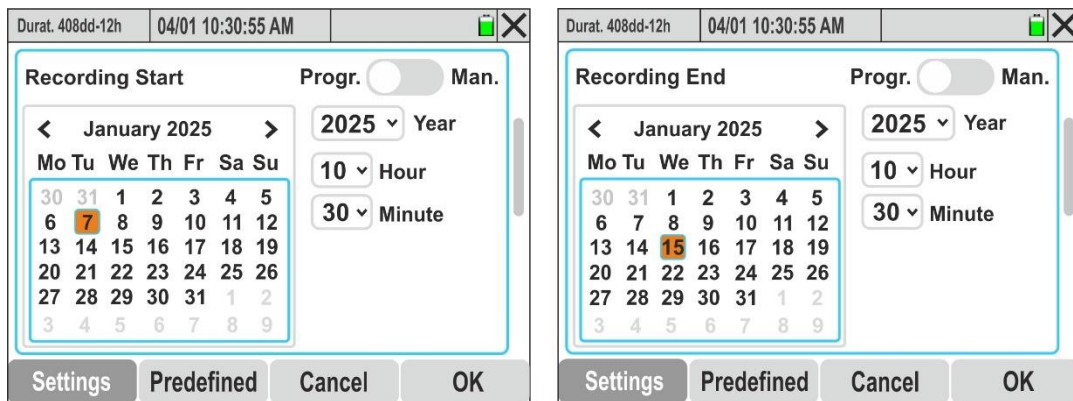

Fig. 30: Setting the programmed recording Start/End date
- **Progr.** → Programmed start of recording **by pressing the GO/STOP key** to stop the instrument at the date/time set on the instrument. In this state, the screen in Fig. 30-left part of the display is shown
- **Progr.** → Programmed stop of the recording at the date/time set on the instrument. In this state, the screen in Fig. 30- right part of the display is shown